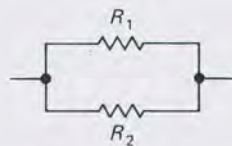

Figure 1.4
2. The resistance of two resistors in parallel (Fig. 1.4) is